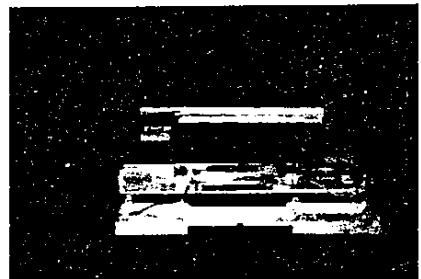

Fig. 2-6. Front Bezel Removal
2.3.7 With the top cover already off, the front BEZEL can be removed by gently working it forward, away from the rest of the computer. Lay the BEZEL in front of the computer, temporarily, as shown in Fig. 2-6.